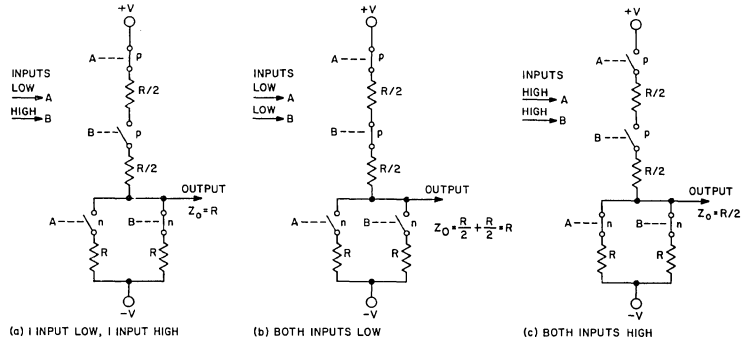

Fig. 4 — Variable output impedance of an unbuffered 2-input NOR gate. The resistors represent the on impedance of a p- or n-channel MOS transistor.
–Unbuffered—Fig. 4 depicts the unbuffered 2-input-gate p- and n-channel MOS switches and appropriate on-channel resistances. Note that the two stacked p-channel switches are designed for an on resistance of $R/2$, so that the output impedance is R when both the logic inputs are low, Fig. 4(b). In Fig. 4(a) the output impedance is R to the negative supply terminal (usually ground) for an input logic state of 1, input high. Fig. 4(c) shows the condition when the unbuffered gate has an output impedance of $R/2$ for both logic inputs high. Hence the variable output impedance of the unbuffered gate. For a 4-input gate, this variable is R to $R/4$! The maximum output resistance of RCA buffered or unbuffered gates is R . Thus, minimum I_{OL} and I_{OH} specifications for buffered and unbuffered gates are identical.